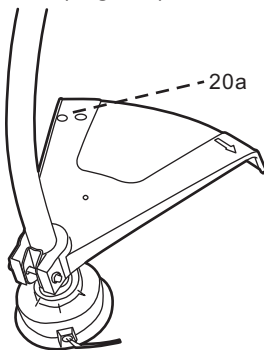

Fig. 11
- > The safety guard is equipped with a knife (20a) that cuts the trimming line if required (Fig. 11).